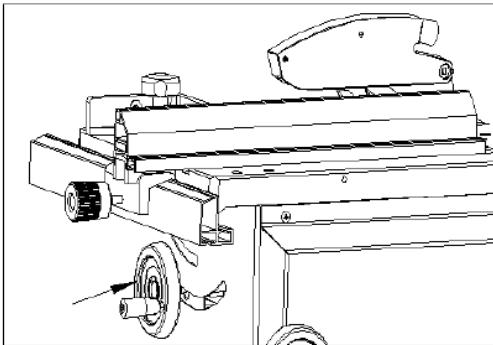

Fig.13
- 1) Adjust the cutting height using the hand wheel (Fig. 13).